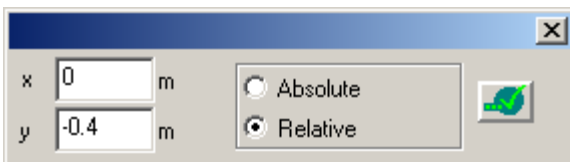

Figure 1.7.2 Floating box to define coordinates of node
- ⇒ In another window (see Fig.1.7.2), define the following parameters: